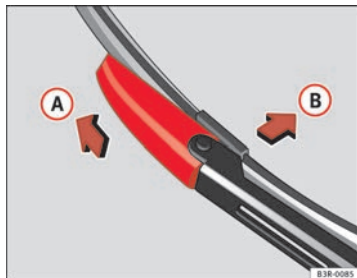

Fig. 183 Removing the wiper blade
- Slide the retainer catch on the wiper blade in the direction indicated $\Rightarrow$ fig. 183 **A**. Hold onto the wiper blade at the same time.